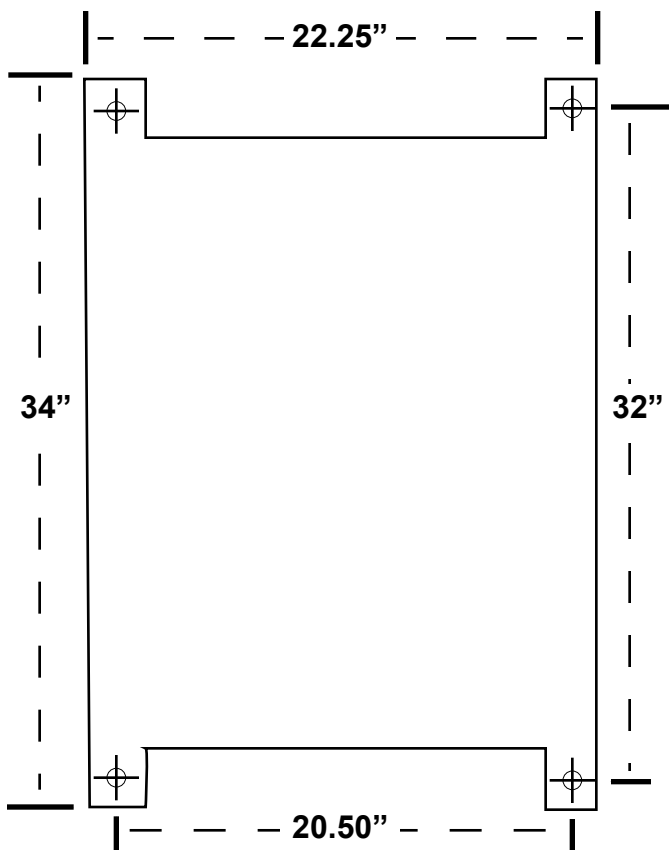

Figure 2: Mounting template
3. Confirm marked mounting location matches the mounting template (Fig. 2).